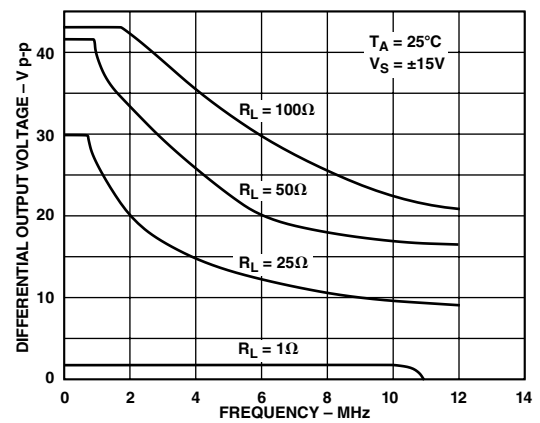
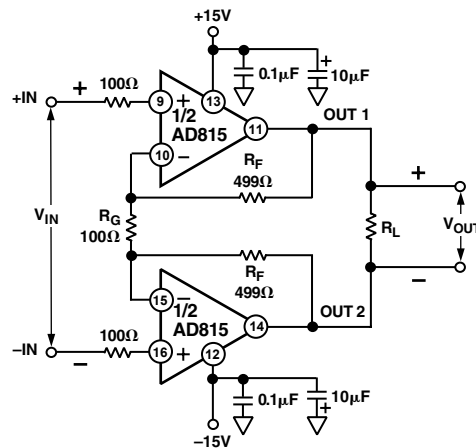
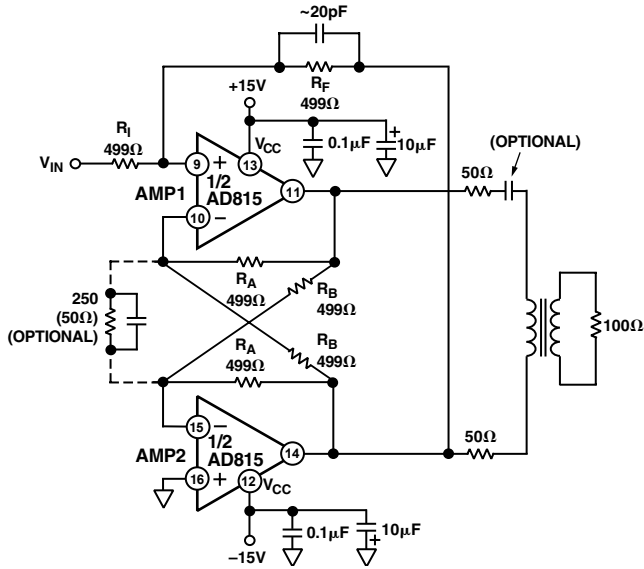

Figure 15. Large Signal Frequency Response
Figure 51. Fully Differential Operation
Figure 55. Single-Ended-to-Differential Driver
There are additional power considerations applicable to the AD815. First, as with many current feedback amplifiers, there is an increase in supply current when delivering a large peak-to-peak voltage to a resistive load at high frequencies. This behavior is affected by the load present at the amplifier's output. Figure 15 summarizes the full power response capabilities of the AD815. These curves apply to the differential driver applications (e.g., Figure 51 or Figure 55). In Figure 15, maximum continuous peak-to-peak output voltage is plotted vs. frequency for various resistive loads. Exceeding this value on a continuous basis can damage the AD815.
Various circuit configurations can be used for differential operation of the AD815. If a differential drive signal is available, the two halves can be used in a classic instrumentation configuration to provide a circuit with differential input and output. The circuit in Figure 51 is an illustration of this. With the resistors shown, the gain of the circuit is 11. The gain can be changed by changing the value of R_G . This circuit, however, provides no common-mode rejection.
A second circuit that has none of the disadvantages mentioned in the above circuit creates a differential output voltage feedback op amp out of the pair of current feedback op amps in the AD815. This circuit, drawn in Figure 55, can be used as a high power differential line driver, such as required for ADSL (asymmetrical digital subscriber loop) line driving.
- Changes to Figure 55 and Figure 5614